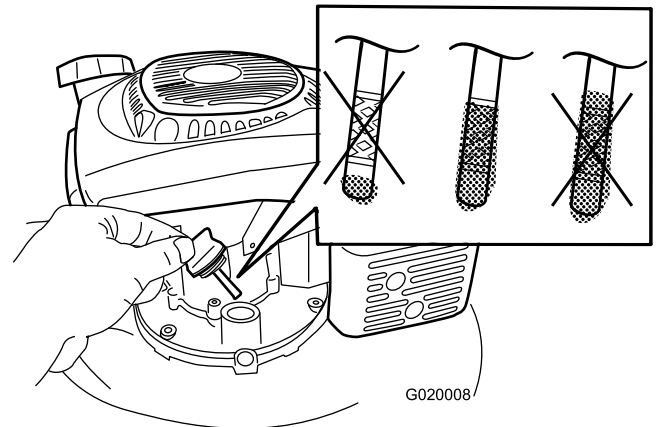

Figure 20
4. **Slowly** pour oil into the oil-fill tube until the oil level reaches the Full line on the dipstick (Figure 20). **Do not overfill.** (Max. fill: 0.65 L (22 oz), type: 10W-30 or SAE 30 detergent oil with an API service classification of SJ or higher.)